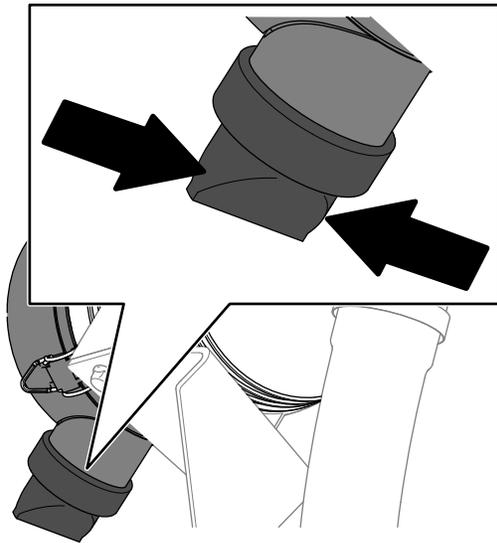

Figure 81
5. Squeeze the dust-ejector valve (Figure 81).